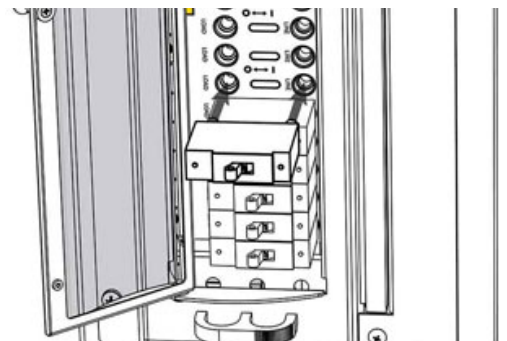

Figure 26. Insert Breaker
- Step 2.** Open the AM breaker panel access door and view the channel mapping inside of the panel for correct LOAD/LINE breaker orientation, then insert breaker(s) into the bullet sockets (see Figure 26).